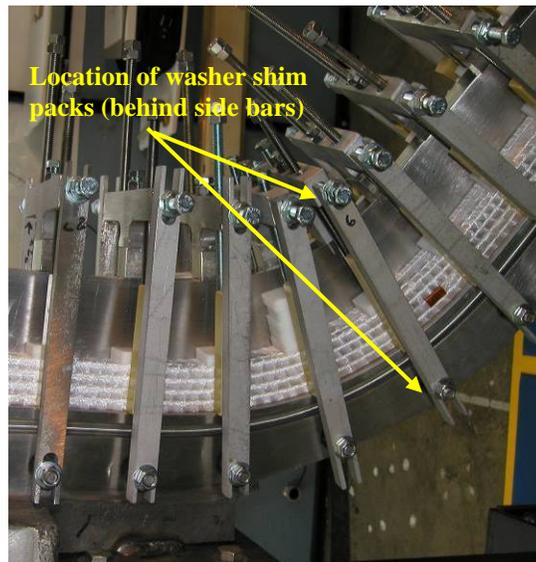

Figure 5-Location of Side bar Shims
6.6.3 The winding team shall install the correct shim washers on the weld studs between the casting and the side bar nuts. [See Figure 5-Location of Side bar Shims] Remove the side bars after the shims have been installed.